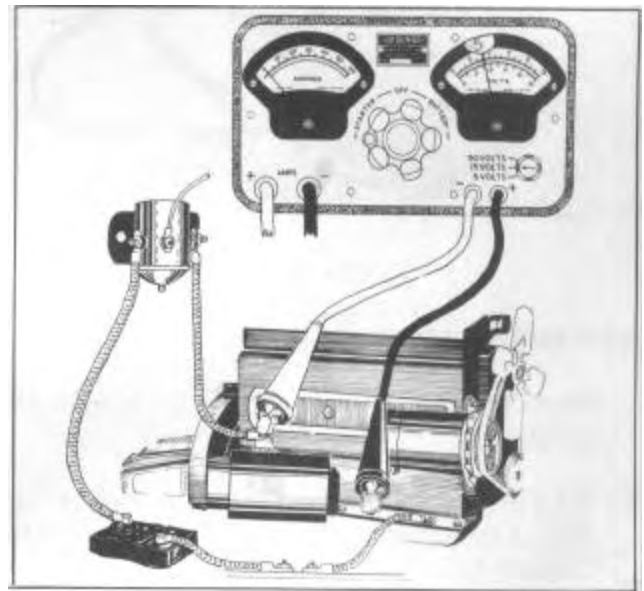

FIGURE 3
1. Connect the negative voltmeter lead of the starter motor tester to the starter switch terminal, Figure 3.